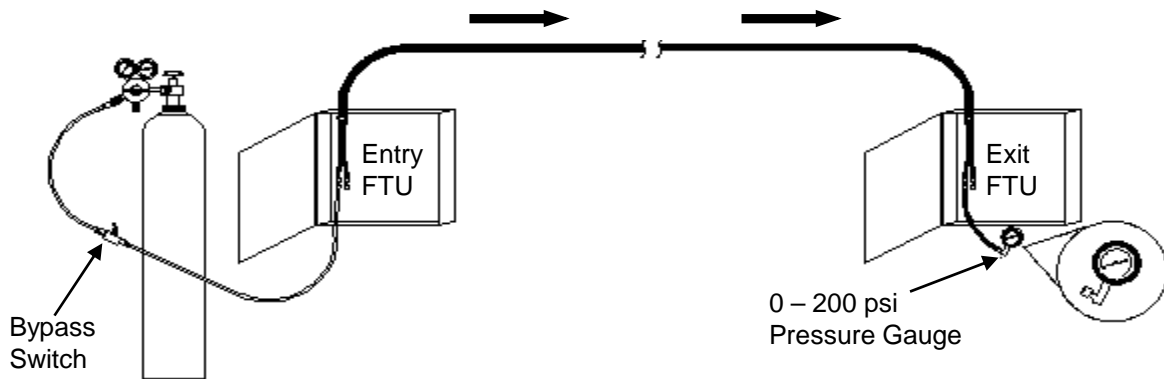

Figure 2
5.1 See Fig. 2 for Pressure Test Equipment layout.